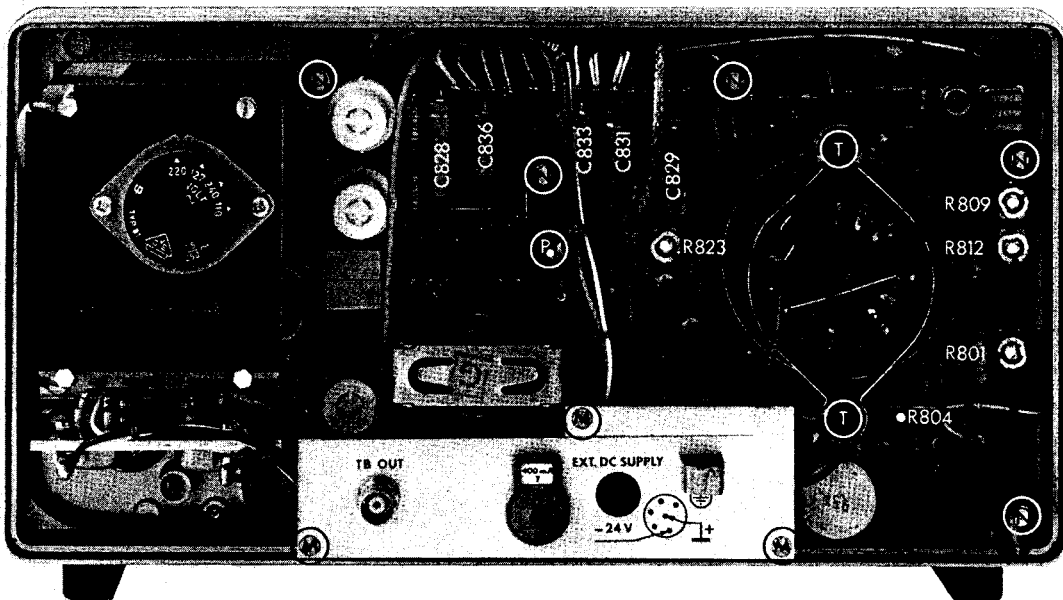

Fig. 3.15. Adjusting and dismantling
- Check that the voltage across capacitor C833 is +12 V, + or –20 mV; if necessary, readjust potentiometer R823 (Fig. 3.15.).
- Set potentiometer R801 (Fig. 3.15.) to its mid-position and potentiometer R553 (Fig. 3.17.) anti-clockwise.
- Check that both traces are equally bright. If necessary, turn screw T (Fig. 2.1.) or rotate magnet T (Fig. 3.15) until both traces have the same brightness.
- Adjust FOCUS potentiometer R9 and astigmatism potentiometer R809 (Fig. 3.15.) for sharp, well-defined traces. Find the setting that gives the best result for both channels.
- Set FOCUS potentiometer R9 in mid-stroke position and check for sharp traces. If necessary select a different value for R804 (Fig. 3.15.).
A small deviation may occur. If necessary, adjust and determine an average setting with the aid of potentiometer R812 (Fig. 3.15.).
- The spots must be barely visible; if necessary, readjust potentiometer R801 (Fig. 3.15.).